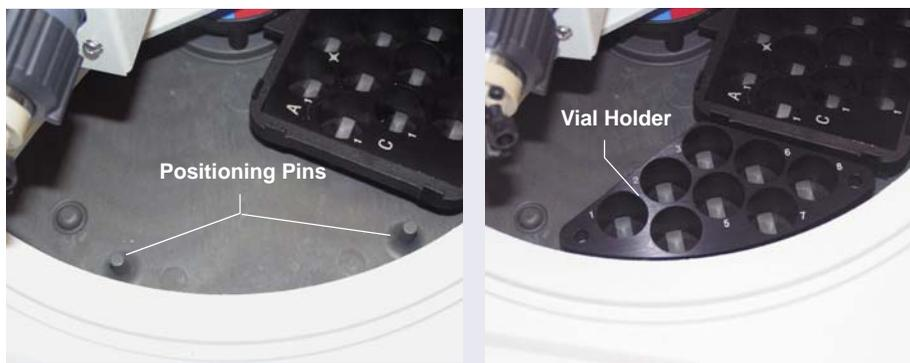

Figure 3-7. *Installing an 8-Position Vial Holder in the Carousel*
- a. Note the positioning pins on the carousel (see Figure 3-7) and the corresponding holes in the holder.